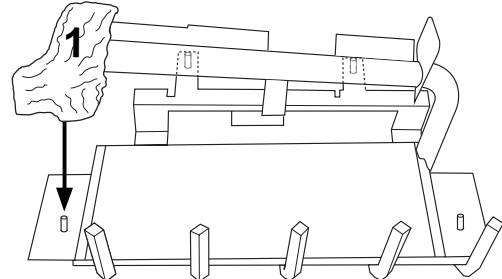

Figure 40 - Installing Log No. 1
1. Place log #1 (base log) onto pin on left front side of grate as shown in Figure 40.